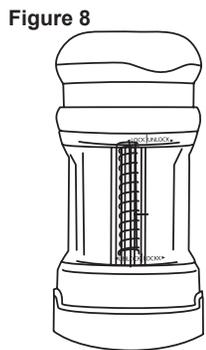

Figure 8
8. Push the Handle down so that the Spring Loaded Pusher is fully seated inside the Container. Twist the Handle clockwise until the Container clicks locked (Figure 8).